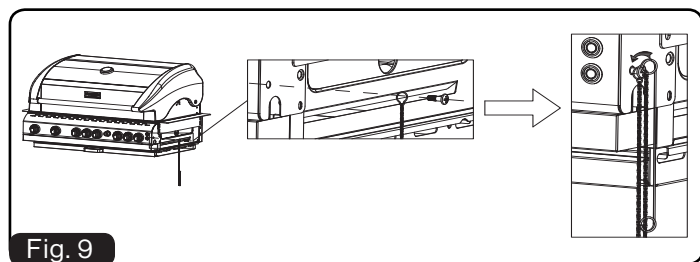

Fig. 9
9. Locate the ignition assembly as shown and tighten one half tooth screw M6 x 20mm, then hang up the ignition assembly on the screw head. (Fig. 9)